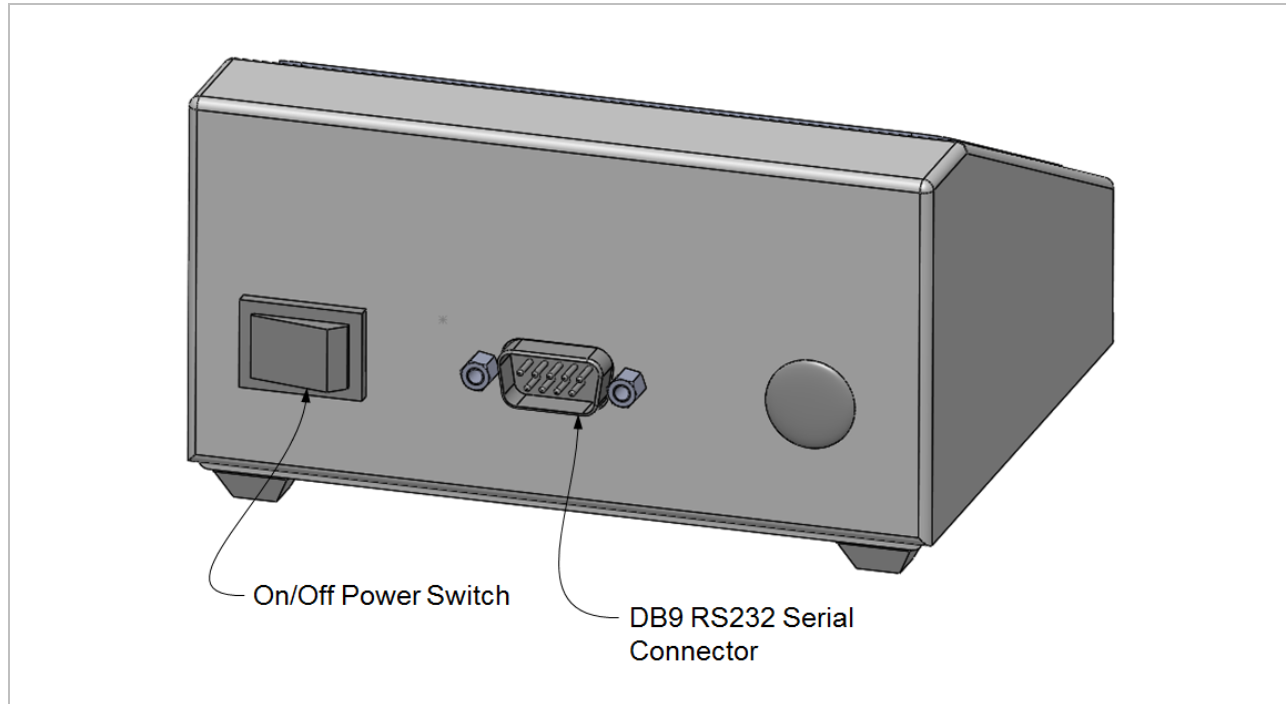

Figure 3: HP90 Hot Plate Controller Rear Panel Components
2. If using the Hot Plate Controller, plug one end of the serial cable into the DB9 connector on the back of the Hot Plate Controller unit (ref: Figure 3) and the other end into the DB9 connector on the back of the HP90 Bake Plate (ref: Figure 1).
6. Turn the unit on by the switch on the rear of the HP90 Bake Plate. The ring LED will illuminate and most likely display the cycling blue color. If using the Hot Plate Controller, turn the controller on using the power switch on the rear panel (ref: Figure 3). The unit display will light and the power LED will illuminate.